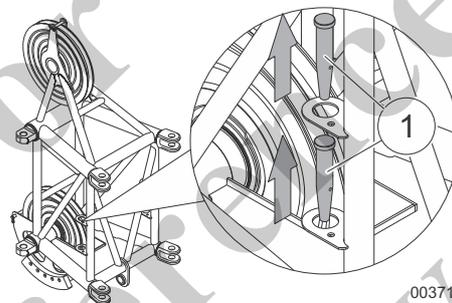

Fig. 233 Removing the bolts on the lattice boom headpiece
1	Release and remove the bolts (1) in Fig. 233 from the parking positions on the lattice boom head.